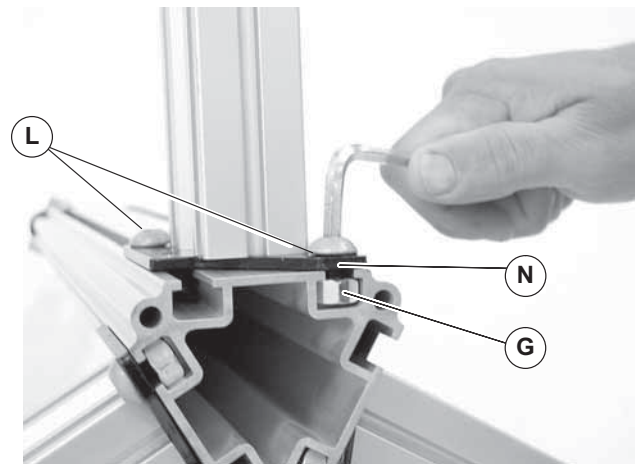

Figure 6
- Align bottom edge of the end plate (Figure 6, item N) with bottom edge of the trileg post (G).
Failure to secure screws (Figure 6, item L) may cause conveyor sections to drop down, causing severe injury.